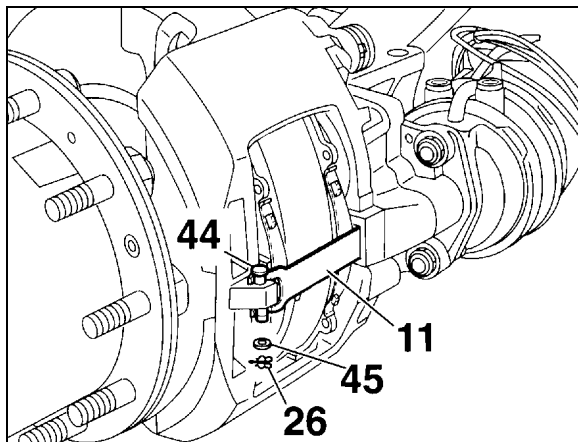

FIGURE 26: CLEARANCE INSPECTION 12119
Remove clip and washer (26 & 45, Fig. 26), push down retainer bar (11), pull out pin (44) and remove retainer bar. Push caliper toward actuator (center of vehicle) for maximum clearance.